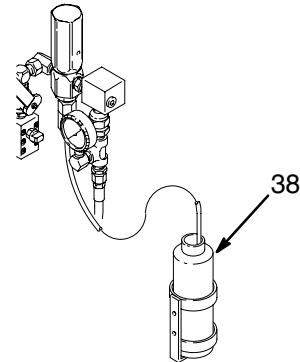

Fig. 16
Check the drain hose and bottle (38) at the start of each shift, and whenever there is an imbalance of material, to see if the automatic pressure drain valve has released material into the bottles. Clean the hose and bottle as needed. Regularly check the drain hose for cuts, leaks, or bulges and replace damaged components before using the system. See Fig. 16.